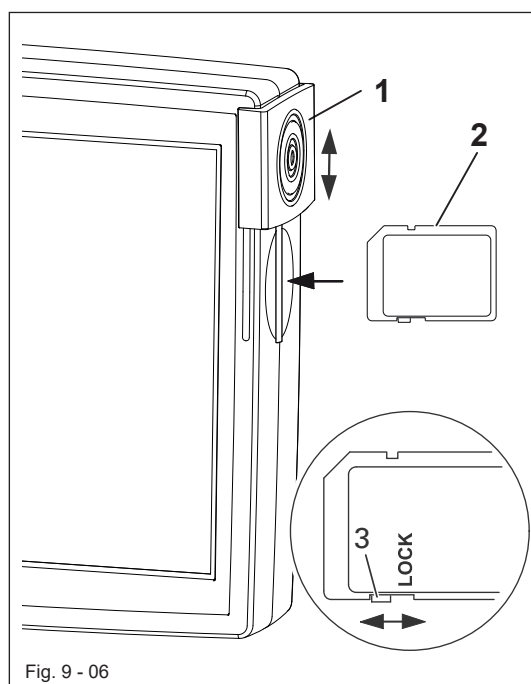

Fig. 9 - 06
- Insert the bobbin as shown in **Fig. 9 - 05**
- Thread the needle thread as shown in Fig. 9 - 05. Please ensure that the PFAFF 1571 needle is threaded from **right to left** and that of the PFAFF 1591;1593 is threaded from **left to right**.